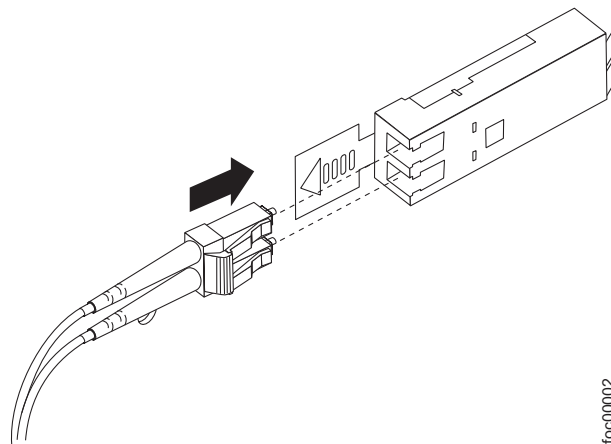

Figure 18. Inserting a fiber-optic cable into an SFP module
2. Holding the cable by its connector, align the cable end with the SFP module, and push it into the SFP (see Figure 18) until the connector clicks in place.